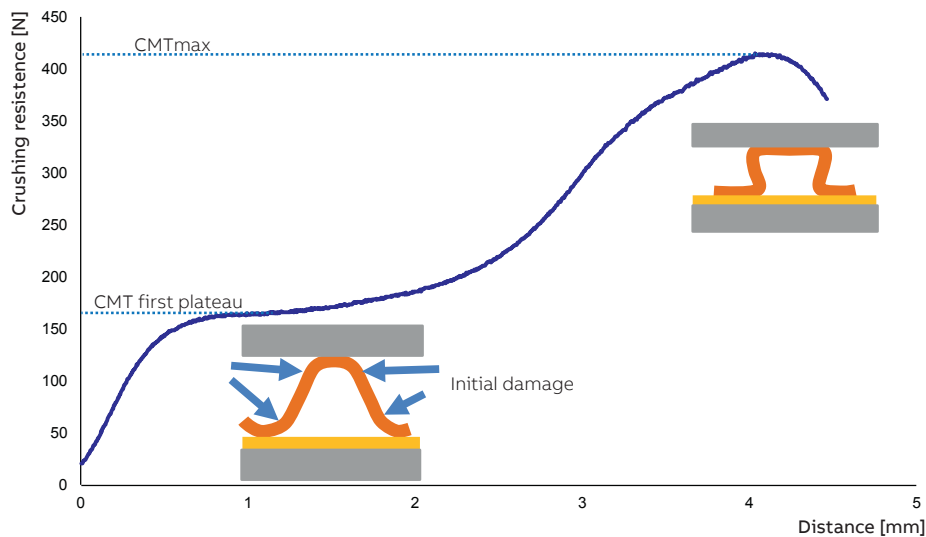

Fig.1: CMT compression curve showing standard CMTmax and CMT first plateau FP.
**Step 1:** By measuring crushing resistance at initial damage of the specimen in a CMT test one can get an indication of the strength potential of the fluting medium, hence the ability to keep the liners apart without lose its own strength. CMT first plateau has been used to define initial damage in this case (Fig.1).